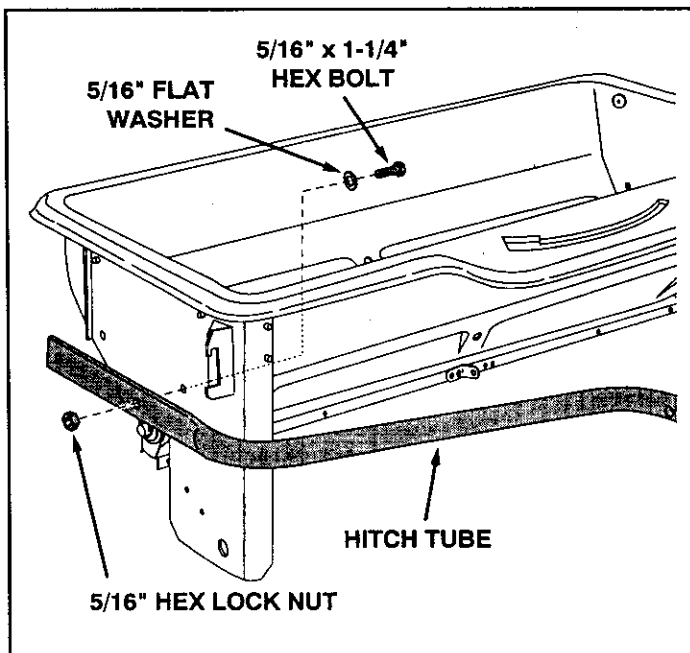

FIGURE 1
- (1) Pliers
- Attach a hitch tube to the front hole in the right hand side of the hopper using a 5/16" x 1-1/4" hex bolt, a 5/16" flat washer and a 5/16" hex lock nut. Assemble the bolt and washer from inside the hopper. **Do not tighten yet.** See figure 1.